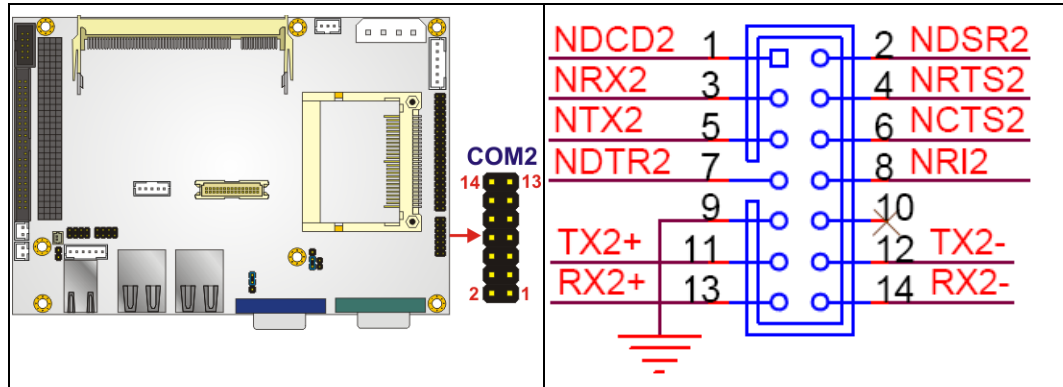

Figure 4-13: Serial Port Connector Location
- CN Location:** See **Figure 4-13**